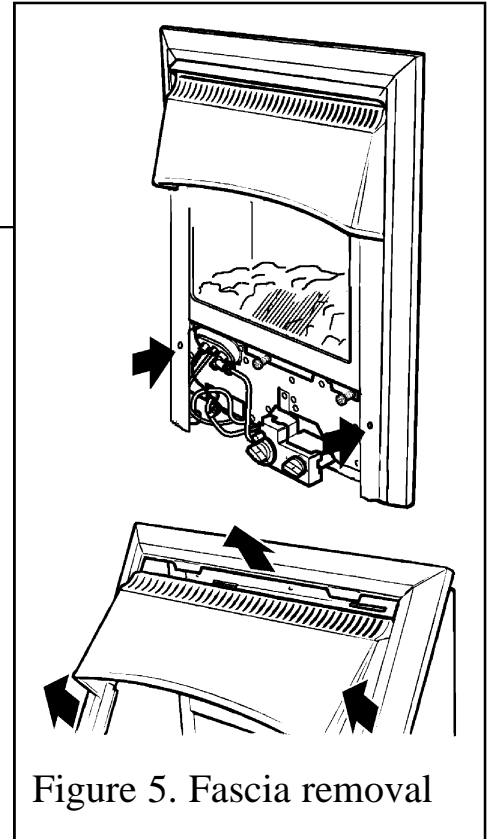

Figure 5. Fascia removal
5.2.1 Fascia removal on the Decadent model (See figure 5).